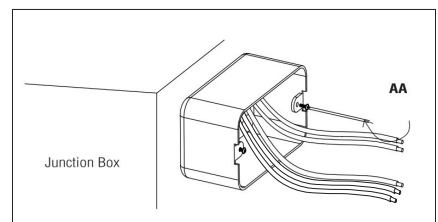

Figure 5
- iii. Install the two screws (AA) into the junction box, leave 1/4" of screw exposed to accommodate lamp base. (Figure 5)